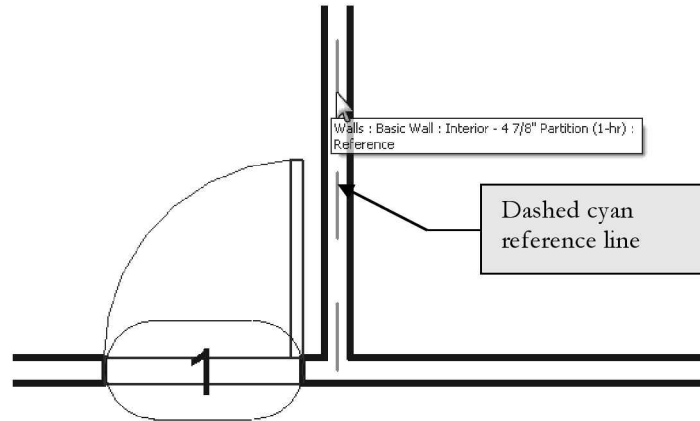

FIGURE 2-2.6 Mirroring a door
13. With the door selected and the *Mirror* command active, hover the cursor over the adjacent wall until the dashed reference line appears centered on the wall, keep moving the mouse until you see this, and then click. (Figure 2-2.6)